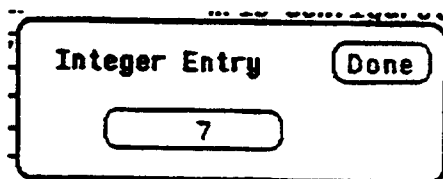

Figure 5-15. Integer Entry Pop-Up Menu
1. Select the External I/O Port Configuration menu and place the cursor in the field directly to the right of HP-IB Address:. Press SELECT and an Integer Entry pop-up appears as shown in figure 5-15.